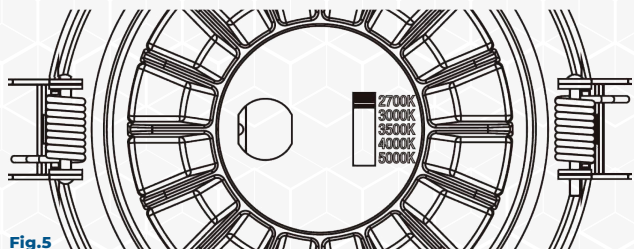

Fig.5
2. Select desired colour temperature using the selector button at the back of the fixture (preset to 3000K — warm white). (see Fig.5)